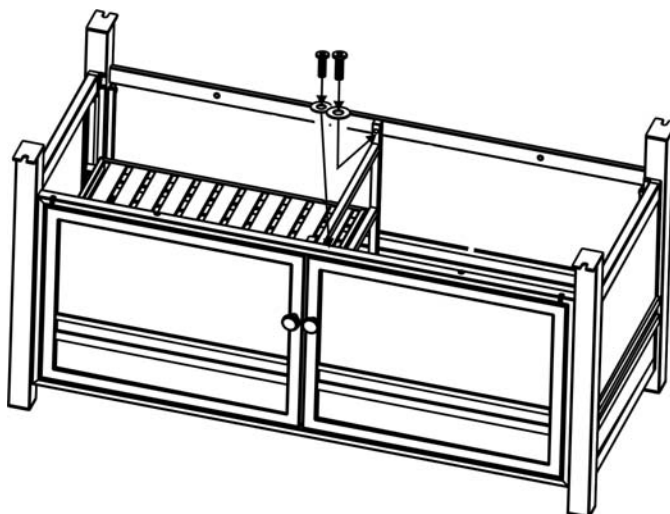

Figure 6
6. Attach the bottom panel to the back panel by using two 1/4"x30 mm bolts and Ø6.5X1.0mm washers as shown in Figure 6. Guide the bolts through holes in the bottom panel, into pre-drilled holes in the back panel. Hand tighten only.